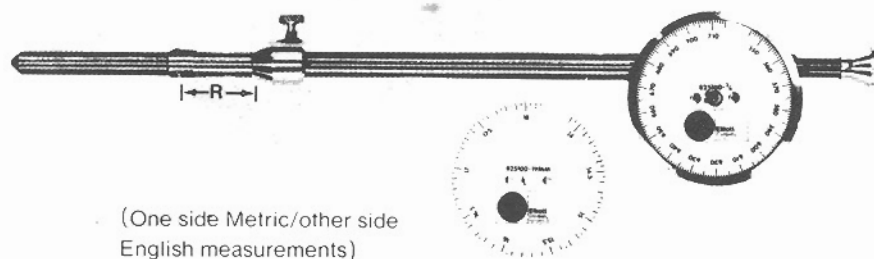

FIGURE 27
The expanded ID of the tube and the sheet hole are measured with an Internal Tube Gauge (see Figure 27) to insure that adequate wall reduction is achieved. This tool uses three (3) steel balls situated in a triangulated pattern in the tool housing to measure the tube ID. A tapered center shaft presses the balls to the tube inside. The shaft travel transmits the measurement to the calibrated gauge face, indicating the tube ID in thousandths of an inch. A stop collar on the tool casing positions the balls in the area to be measured.